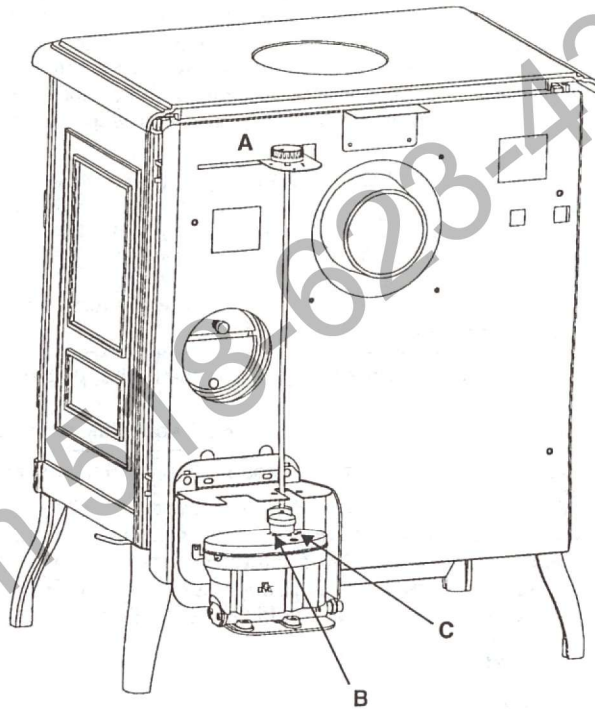

Figure 16
Turn the control knob 'A' to the # 1 dial setting and allow the burner to run for a few minutes. The flame must completely cover the bottom of the burner pot and the catalyser should glow red. If the flame is too small, the oil stove will quickly soot up. Turn the set screw 'B' (figure 16), (item 6, Figure 12), located on the top of the carburetor, clockwise with a screwdriver to increase the flow of oil.
Gradually turn the control knob 'A' to dial setting # 6 and allow the burner to run for a few minutes. The flame should be in a cone form with the top level with the upper part of the door. If the flame is too low, the oil flow rate should be increased by turning the set screw 'C' (figure 16), (# 7, Figure 12) on the carburetor counter-clockwise. If the flame is too high, turn the screw clockwise.